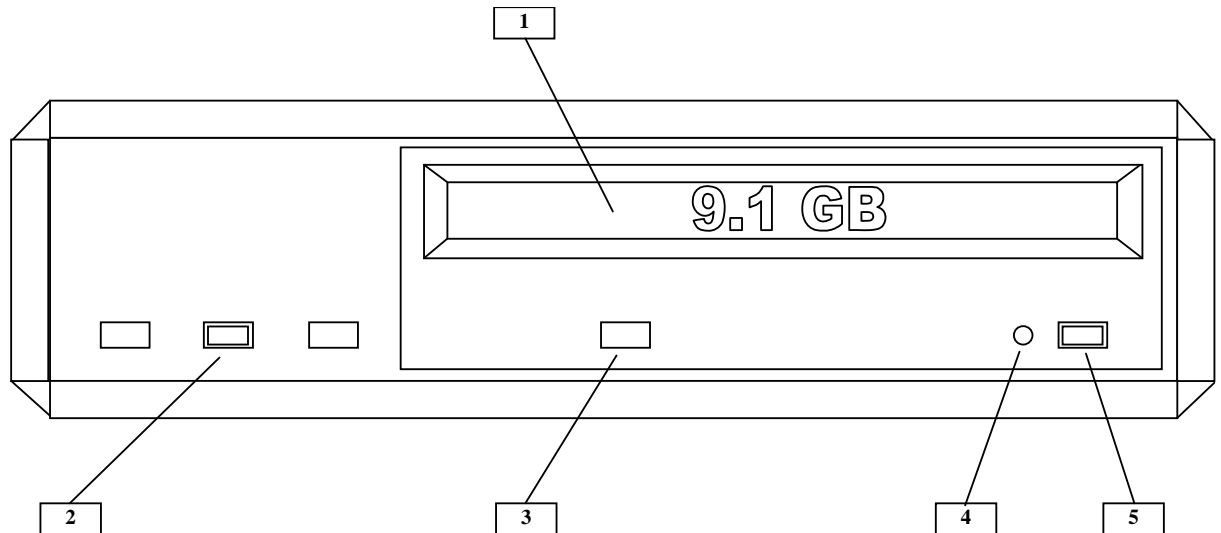
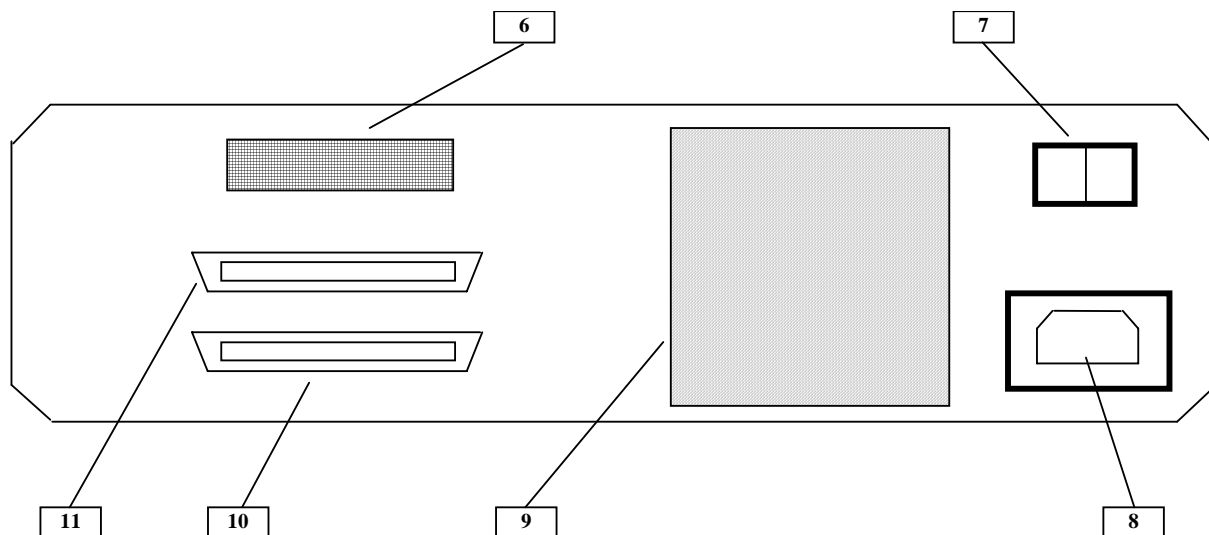

Figure 89 : MOS Optical Disk Drive front panel
Figure 90 : MOS Optical Disk Drive rear panel
The MOS Optical Disk Drive front panel includes (see Figure 89) :
The MOS Optical Disk Drive rear panel includes (see Figure 90) :
- A4 (Indicators) aid is provided by the LEDs located on the front panel of the MOS drive. refer to Figure 89 for details on the LEDs.
- To switch ON the MOS Optical Disk Drive, press the On/Off switch located on the rear panel of the unit (Figure 90). The power indicator (Figure 89) comes on.
- To switch OFF the MOS Optical Disk Drive, press the On/Off switch located on the rear panel of the unit (Figure 90). The power indicator (Figure 89) comes off.
- ☞ Refer to Figure 90.
- Check that the SCSI bus is not active: Activity indicator on front panel of the unit is not lit (Figure 89, Item 2).
- Locate the DIP switches on the rear panel of the disk drive (Figure 90).
- Set the SCSI ID, write verify, SCSI command and Device type via the DIP switches number 1 to 6 on the rear panel of the unit (Figure 90) as indicated :